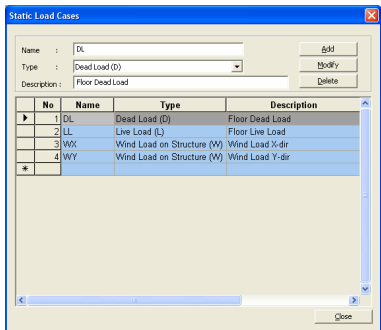

Figure 1.13 Definition of Load Cases
3. Enter “**DL**” in the **Name** field of the **Static Load Cases** dialog box (Fig.1.13).
7. Enter the remaining load cases in the **Static Load Cases** dialog box as shown in Fig.1.13.